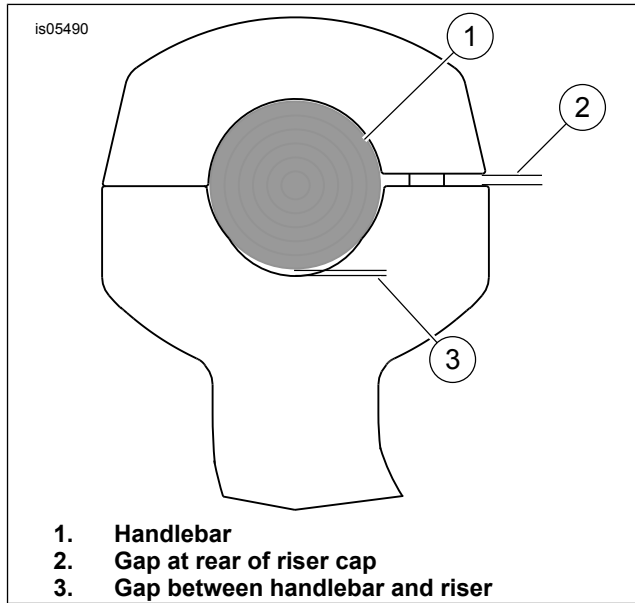

Figure 2. Proper Installation Configuration
See Figure 2. After tightening, the gaps between the upper clamps and the risers should only be at the rear (2) of the handlebar (1) and between the handlebar and the riser (3). Verify there is no gap between the riser caps and the risers at the front of the handlebar.
- Tighten the rear socket head screws (3) to 16–20 N·m (12–15 ft·lbs). If necessary, use torque adapter (5) and a crow'sfoot. Verify socket head screws are tightened to specified value.